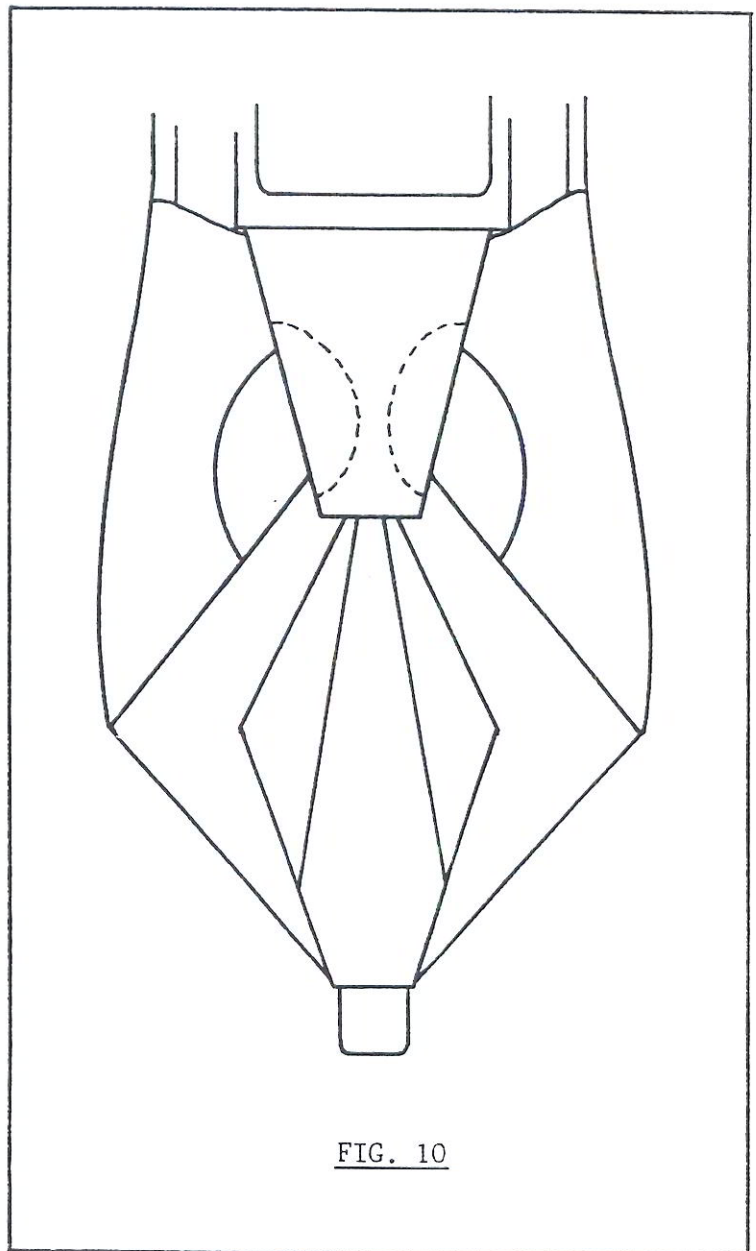

FIG. 10
13) Seal the reserve container and log the work done on the packing data card and in your rigger's log-book. Place the completed data card in the pocket provided on the underside of the reserve top flap cover. Secure the top flap cover over the top flap by inserting the tongue on each side under the top flap (FIG. 10).